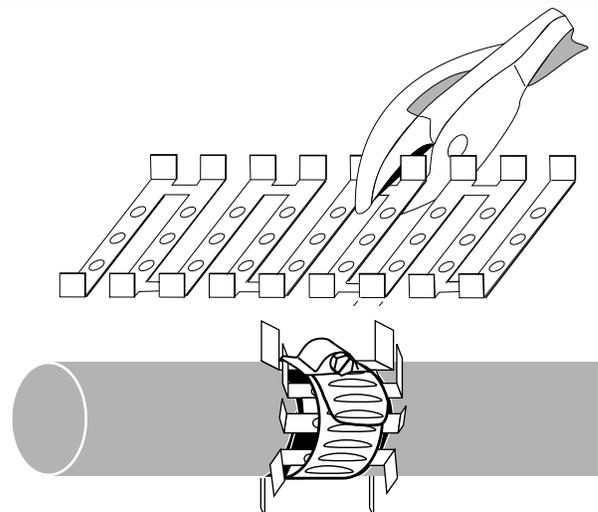

Figure 13
8.3 Install a sheath retention clamp on the cable as illustrated in Figure 13.